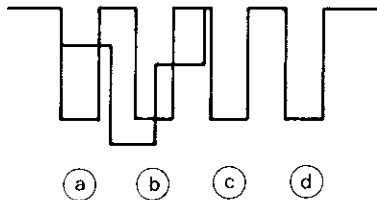
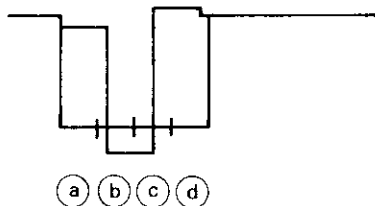

Fig. 74
Fig. 75
- ① Set the "MODE" switch on the front panel to the AUTO mode, and the "FILTER" switch to the COMB position.
- ② Set the "CONTRAST", "HUE", and "CHROMA" controls to the preset condition.
- ③ Turn VR114B fully clockwise.
- ④ Connect the oscilloscope probe to TP27B. The waveform shown in Figure 74 is obtained.
- ⑤ Adjust peaks (a) and (d) in this waveform (Fig. 74) to the same height by turning the "CHROMA" preset control inside the hinged door of the front panel. Then adjust peaks (b) and (c) to the same height by turning the "HUE" preset control. After adjustment all (a), (b), (c), and (d) peaks have the same height.
- ⑥ Connect the oscilloscope probe to TP27G.
- ⑦ Adjust peaks (a), (b), (c), and (d) to the same height as shown in Figure 75 by turning VR114G and VR112. Be sure not to move the "CHROMA" or "HUE" preset controls inside the hinged door.